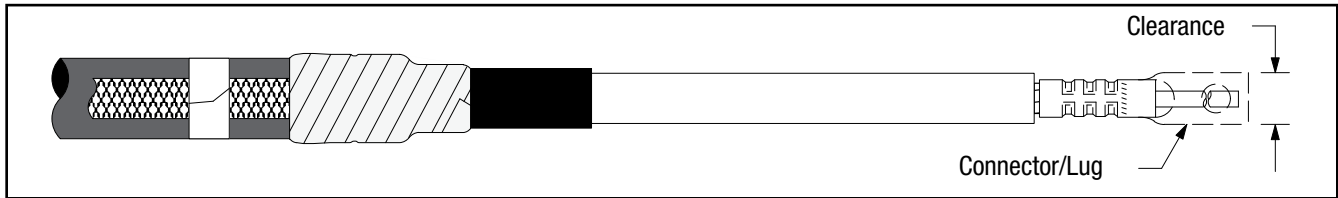

Figure 14
- 9.1 Check to insure 3M™ Cold Shrink QT-III Silicone Rubber Termination fits over the selected lug or connector. If lug or connector (Figure 14) will not fit through the termination core, clean the insulation (per Step 10.0) and slide termination on cable before installing lug. **DO NOT REMOVE CORE AT THIS TIME.**